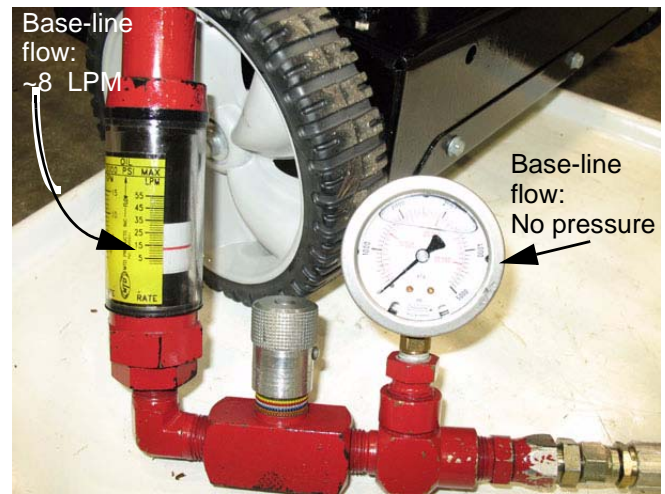

Figure 3.15
5.9. Interpreting the test results: See Figure 3.15.